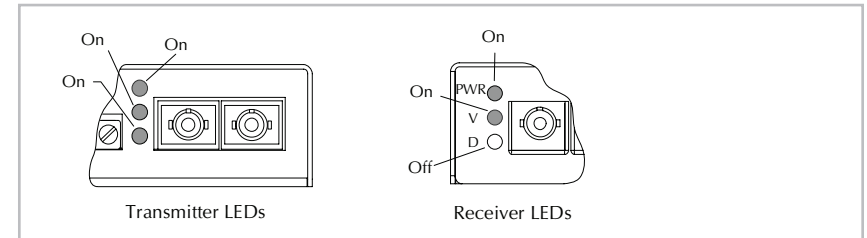

Figure 19: Power UP Transmitter and Receiver LED Status
Upon system power up: Power, Data, and VID RX LEDs on the transmitter should be ON; the Power (PWR) and Video (V) LEDs on the receiver at the controller end should be ON. See Figure 19.